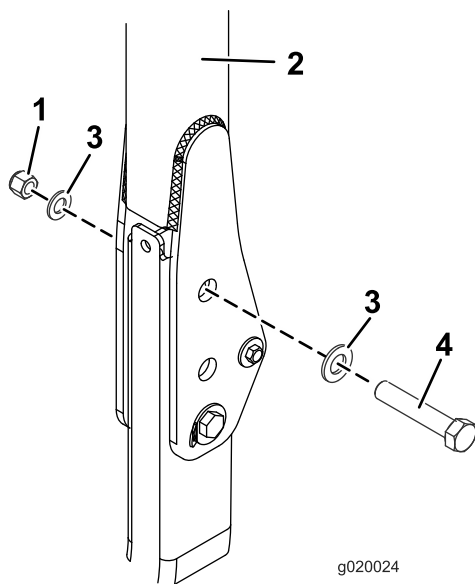

Figure 27
- Insert a washer (13/16 x 1-1/2 inches) onto each bolt (3/4 x 4 inches) as shown in Figure 27.
4. In the holes where the pins were removed, install the bolts and washers (Figure 27).
5. Install another washer onto each bolt and secure with nut (3/4 inch) as shown in (Figure 27). Torque the nuts 323 to 396 N·m (238 to 292 ft-lb).
6. Torque the ROPS pivot bolt (Figure 27) 91 to 113 N·m (67 to 83 ft-lb) to avoid any bouncing of the roll bar and sunshade.